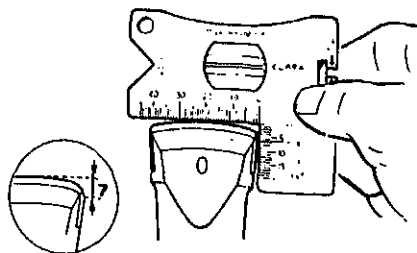

Fig. 3
- the corner abrasion is 7 mm (0.28") measured from the highest point of the bit. See Fig. 3.